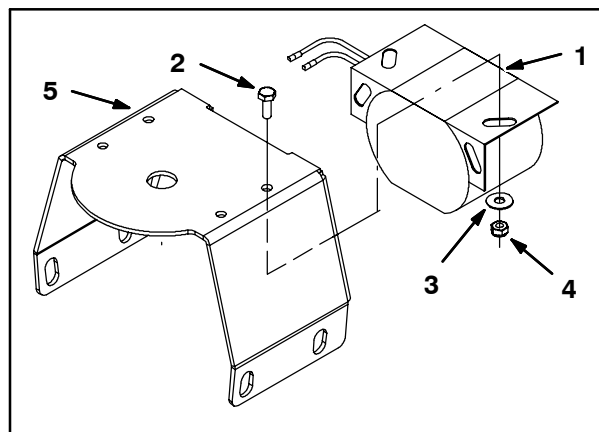

FIG. 9
10. Use two hex screws (2), two flat washers (3), and two hex nuts (4) to install the backup alarm (1) onto the bracket (5). Refer to Fig. 9.